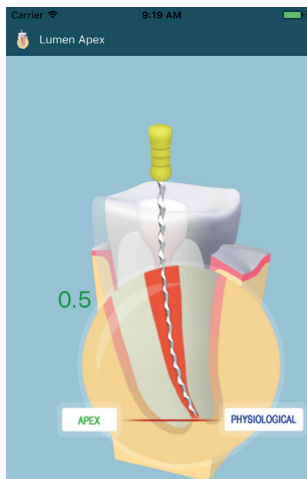
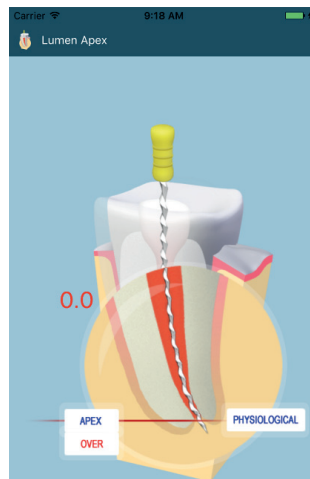

Fig. 6
Fig. 7
8. **When the endodontic file reaches the apical constriction (Fig. 6), the read-out on the display will read green colour number 0,5, you will hear a fast beeping sound and you will see the file tip touch the APEX PHYSIOLOGICAL line in the root canal model.**
9. After the apical constriction is determined (read-out 0,5), the length from the endodontic file tip to the rubber marker on the file will indicate the true measurement of the apical constriction (the working length). This distance should be measured in millimeters on the dentist's ruler and written in the patient's history. To get an accurate working length, the dentist should carefully choose the reference point on the tooth top which touches the rubber marker. If the endodontic file penetrates the apex (apex physiological) the notice "OVER" appears with indication of red numbers. If the endodontic file reaches apex anatomical a continuous sound is produced with a read-out 0.0 (Fig. 7). Lifting the file up one reaches the apical constriction again (Fig. 6) with a typical read-out 0,5 and interrupted sound.
10. **There is one very important extra feature.** If the unit senses a root crack or perforation when the dentist moves the endodontic file in the root canal, it will emit a long, continuous beep, the word “**OVER**” will appear, and the read-out will display **0.0** (similar to what is shown in Fig. 7). The crack or perforation may exist at any distance in the root canal and it must be carefully filled.